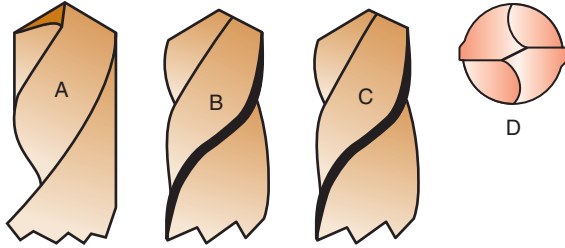

Figure 10-90 Identify the problem with each drill, and the result.
18. In Fig. 10-90, something is wrong with one or more of the bits. Name the problem and tell what the result will be if it is used to drill. Describe what needs to be done to correct each bit.